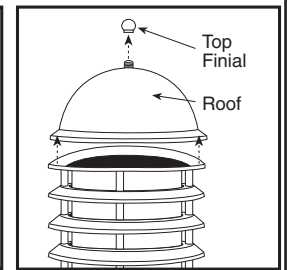

Figure 6
- e. For Louver fixtures, unscrew top finial and lift roof from fixture to replace bulb. Replace roof and tighten top finial firmly. (see figure 6)